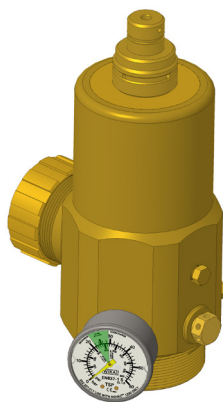

FIGURE 6-32
3. Carefully screw the pneumatic actuator to the top of the subordinate container valve. See Figure 6-32.